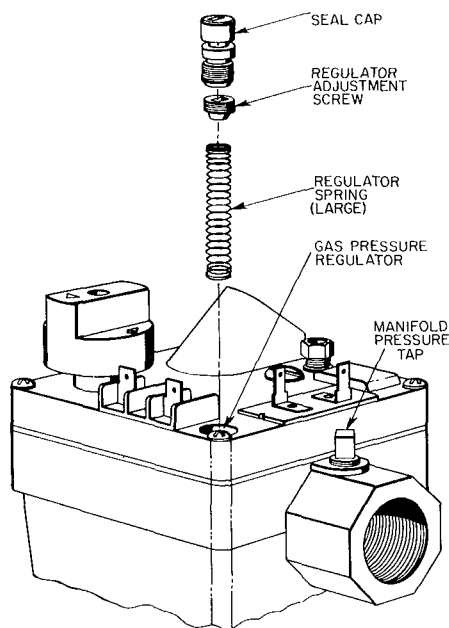

Figure 3 — Model 646A-X Gas Valve
1. Remove regulator seal cap. See Figure 3.